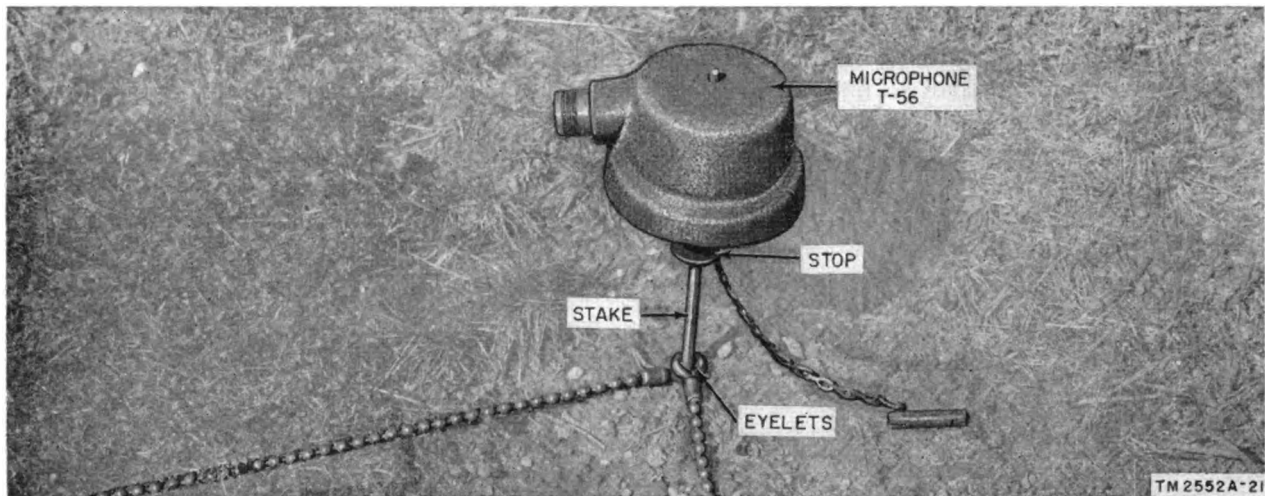

Figure 19. Microphone T-56, stake placed through eyelets.
- (1) Shut off the recorder by throwing the power switch to the OFF position.
- (2) Pull all three microphones from the ground, leaving the cables connected. At position M1, place the stake of microphone M1 (connected Cord CD-1238-A has one metal ring) through two eyelets of two separate chains (one eyelet must be that of the long chain) and push the stake into the ground (fig. 19). The microphone stake should be pushed into the ground by hand, as far as the stop on the